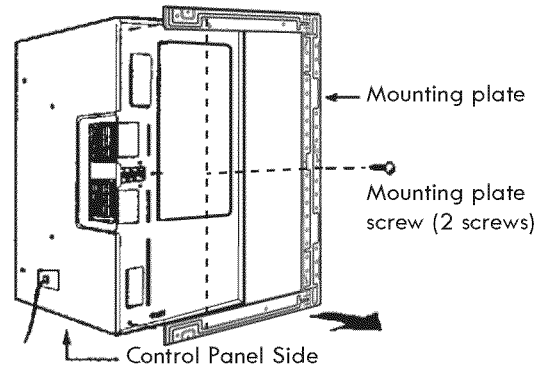

Figure 11
3. Remove mounting plate 2 screws from the mounting plate as shown and discard them. (See Figure 11.)